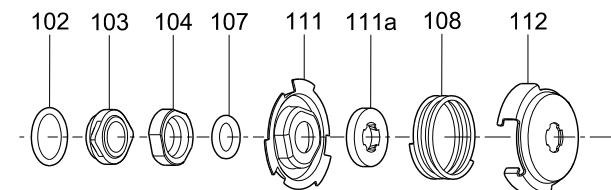

Fig. 15 Exploded view of shaft seal
1. Remove staybolts (pos. 26).
2. Remove inlet part (pos. 6) and gasket (pos. 139b).
3. Hold clamp (pos. 64c), and remove nut (pos. 67).
4. Remove lock washers (pos. 66) and clamp (pos. 64c).
5. Remove impeller (pos. 49) and spacing pipe (pos. 64).
6. Remove chamber (pos. 4).
7. Continue the dismantling until shaft seal (pos. 105).
8. Remove shaft seal (pos. 105). See fig. 15.